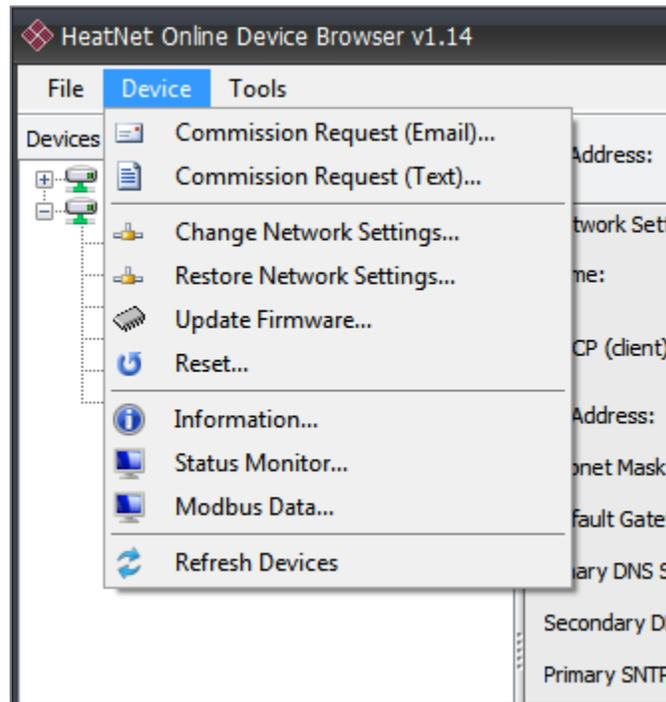

Figure 7 – The Device Menu
- 8) If any of the Network or Server settings have been changed, it is necessary to reset the device for the new settings to take effect. Select *Reset* on the *Device Menu* (see Figure 7) to reset the device. The device will be rediscovered. If the network settings have been changed, it may be necessary to change the network settings on your computer to the same IP network as the device to restore communications. Remember, you cannot use the same IP address that the device is using. If the device is configured to use DHCP, it will be necessary to plug the device and your computer into the local network and change the computer network settings to use DHCP.
When a device is discovered and selected there are a number of additional actions that can be performed using the *Device Menu* (shown in Figure 7).